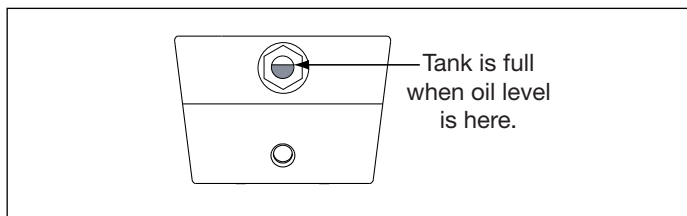
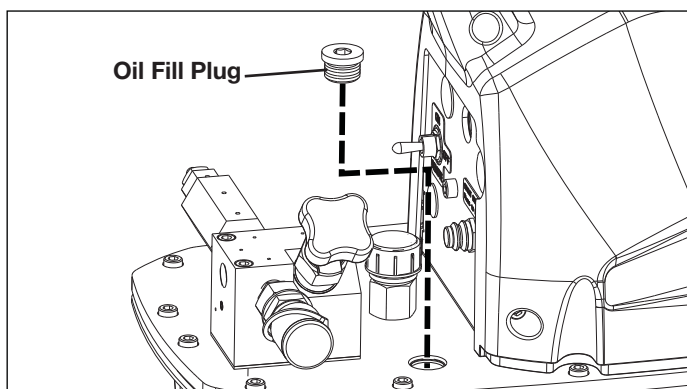

Figure 2, Sight Glass
Figure 3, Oil Fill Plug
4.2 Oil Level (See Figures 2 and 3)
Check the pump oil level prior to start-up. The reservoir is full when the oil level is as shown in Figure 2. If necessary, remove the oil fill plug from the cover plate as shown in Figure 3 and add oil as required.
Check the pump oil level prior to start-up. If oil level is low, remove the oil fill plug from the cover plate and add oil as needed (See figures 2 and 3). Always be sure that hydraulic tools are fully retracted before adding oil to the reservoir.
8. Fill the reservoir with clean Enerpac HF hydraulic oil. The reservoir is full when oil level is as shown in Figure 2.